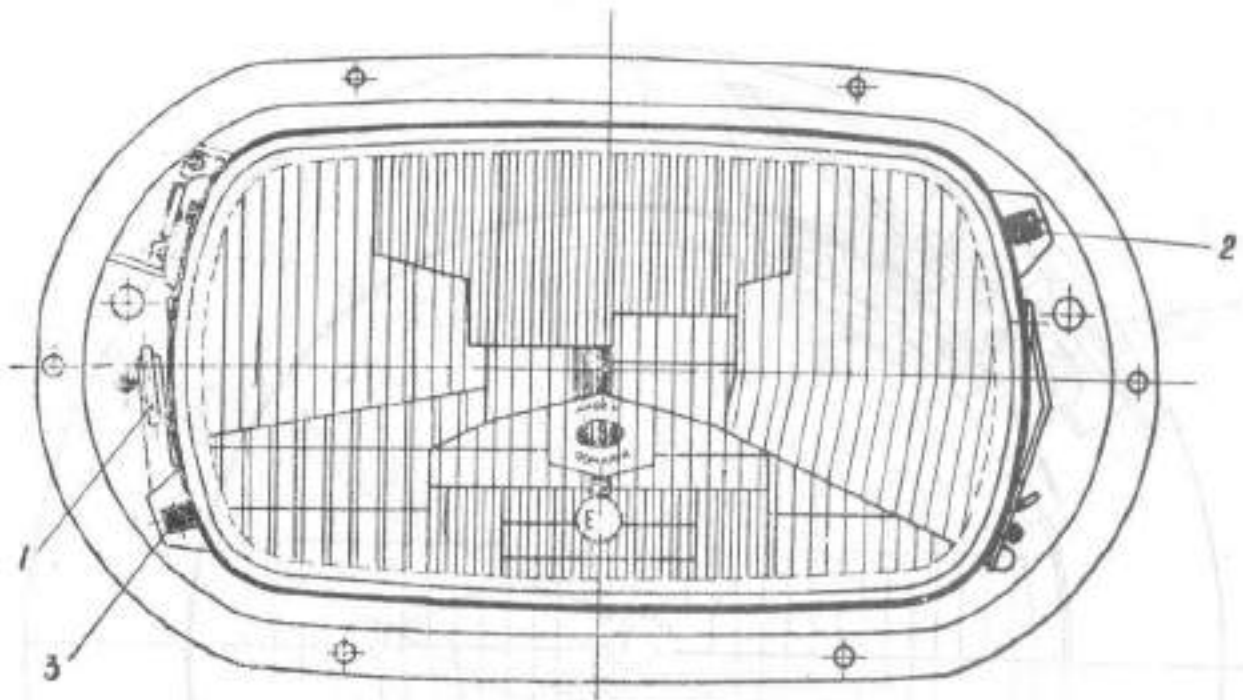

Fig. 2.56. F E R RECTANGULAR HEADLAMP
On the "F E R" rectangular headlamp (see fig.2.56), the rocking lever (1) should be to the left, when the car is loaded, and to the right, when it is unloaded.